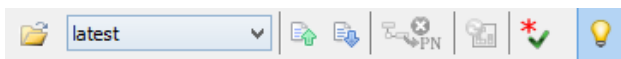

Figure 11: Property Editor Toolbar
- The PE now has a toolbar (Figure 11) with a number of goodies including the ability to import & export currently listed properties.